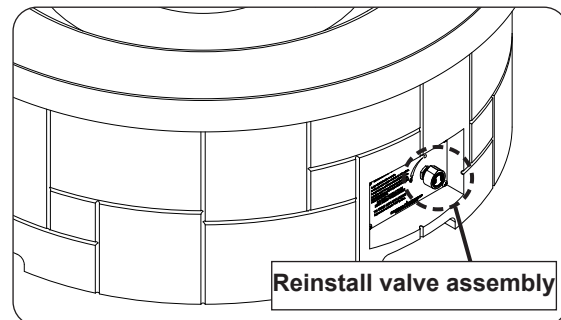

Fig. 29-3 Reinstall valve assembly
1. Reinstall the valve assembly. Tighten the nut attached to the valve. Reinstall the control knob. See Fig. 29-3.